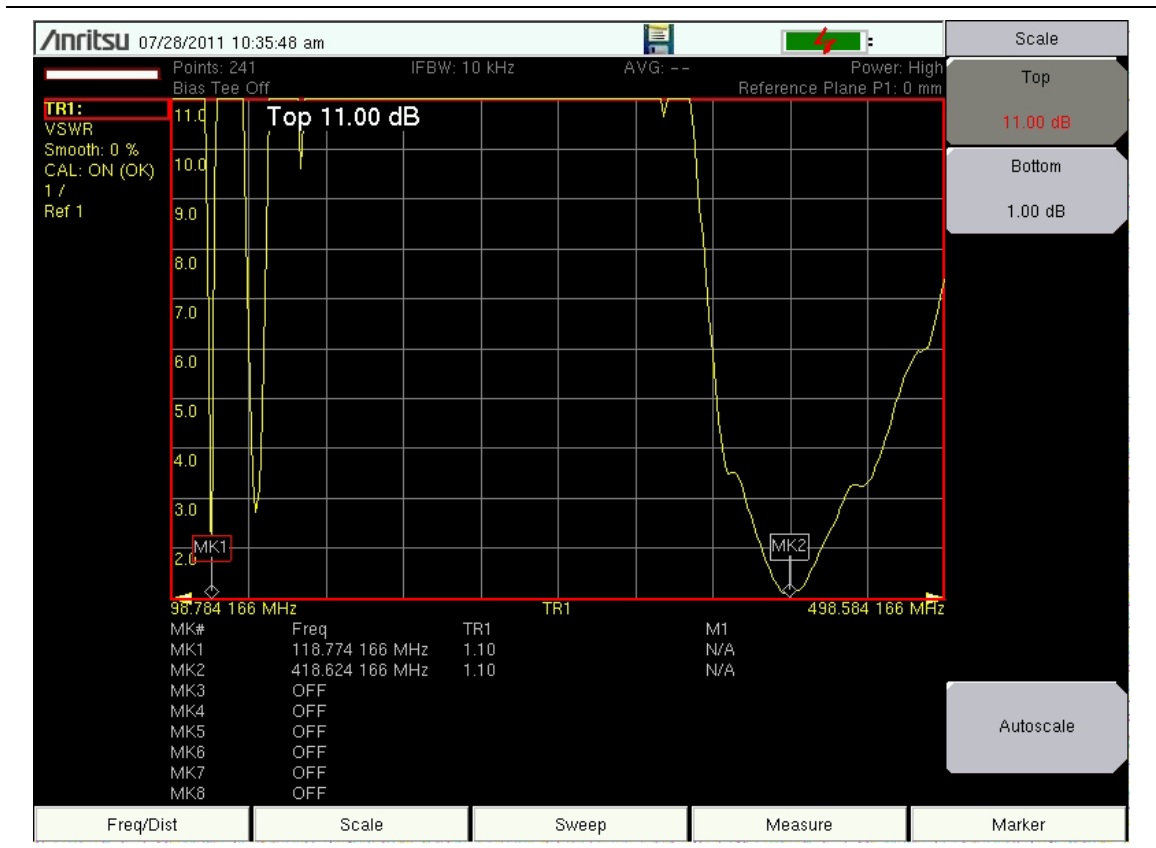

Figure 5-5. Display Type Single – VSWR Measurement
9. Press the **Shift** key, then the **Calibrate (2)** key.
11. When the Calibration is finished, **CAL: ON (OK)** should be displayed with the trace data in the instrument settings summary at the left side of the sweep window, and the trace should be centered around 0 dB when the short or open is connected.
14. Press the **Measure** function hard key and select VSWR from the Graph Type Selector list box to view the match in VSWR. **Figure 5-5** is displaying a VSWR measurement and the Measure menu of the Field setting when Display Type is Single. The example in this figure may not match the display on your instrument..